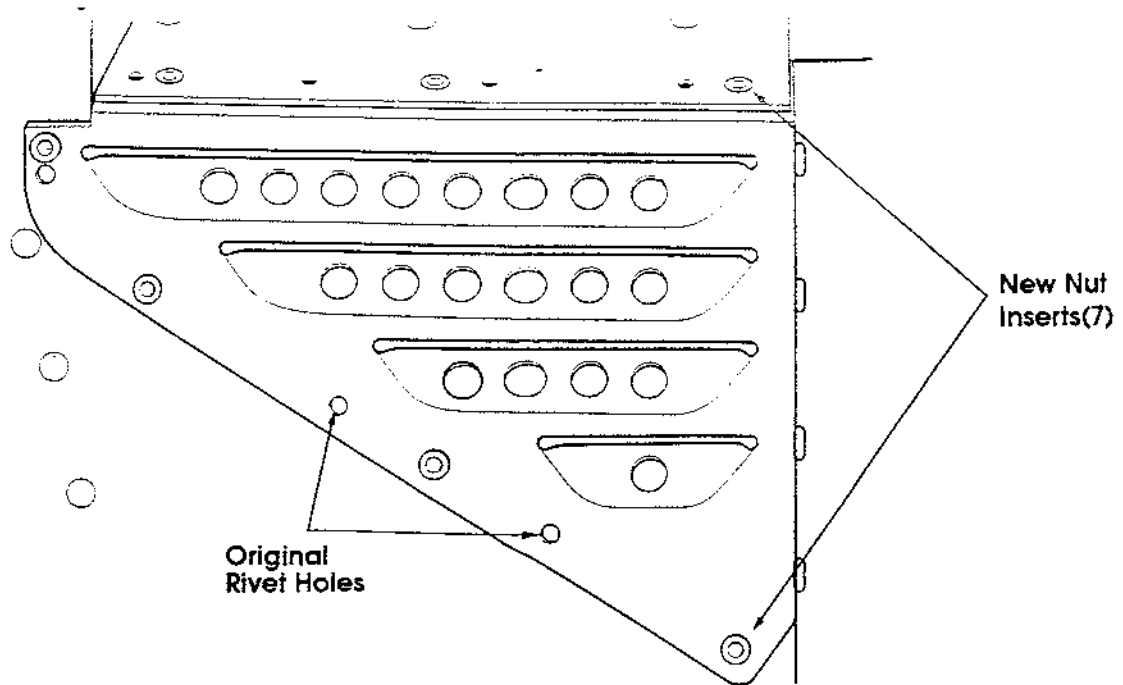

Figure 3 Nut Insert Installation
12. Obtain the intake scoop (Item 3), place on the body over the fresh air intake louvers so that the front edge of the scoop aligns with the front edge of the louvers. Mark out the 7 holes in the body. Alignment is critical (See Figure 3).
14. Install (7) 10-24 closed end nut inserts (Item 6) into the holes, use sealer on inserts when installing. Using a rivet gun or plusnut gun, expand the nut inserts in the body (See Figure 3).